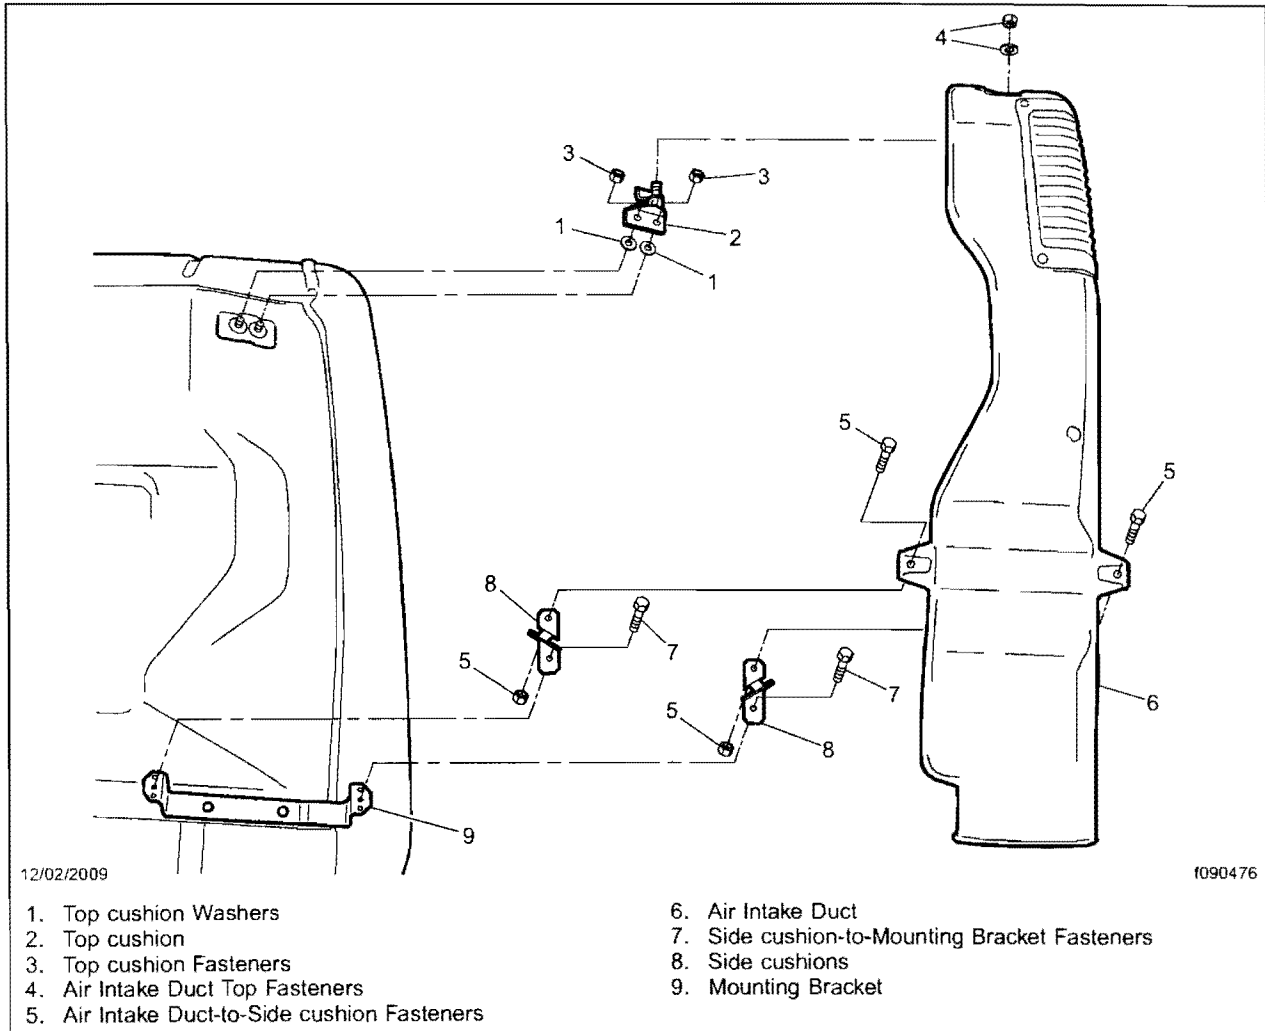

Fig. 1, Air Intake Duct Removal
5. Remove the air intake duct top mounting fasteners. See Fig. 1.